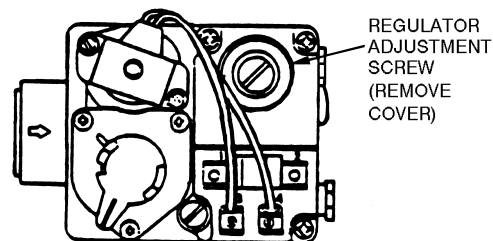

Fig. 56 — Gas Valve
6. Remove screw cap covering regulator adjustment screw (See Fig. 56).